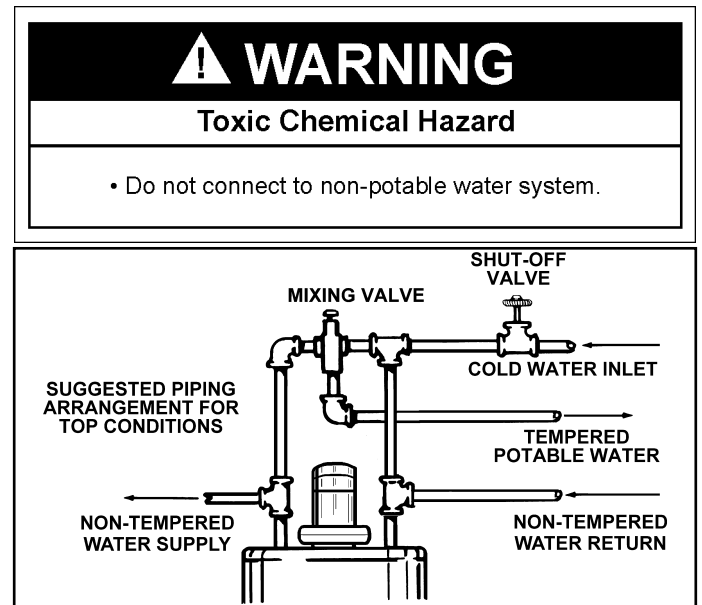

FIGURE 6
4. When the system requires water for space heating at temperatures higher than required for domestic water purposes, a mixing valve must be installed, see Figure 6 for suggested piping arrangement.